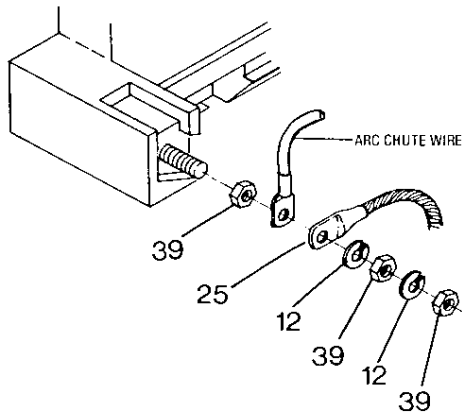

Figure 6
- Remove the arc chute wire by removing the bottom end of the shunt (25), two lockwashers (12) and two nuts (39) which secure arc chute wire to contactor base (Fig. 6).
- Remove the arc chute by removing the pan head screw (5), washer (7), lockwasher (8) and nut (9).
- Reconnect the arc chute wire and the bottom end of the shunt (25) to the contactor base using the lockwashers and nuts (Fig. 6).
1. With all power removed, disconnect the bottom end of the shunt (25) by removing the two lockwashers (12), and two hex nuts (39) (Fig. 6).
4. Reconnect the arc chute wire and the bottom end of the shunt (25) to the contactor base using the lockwashers and nuts (Fig. 6).